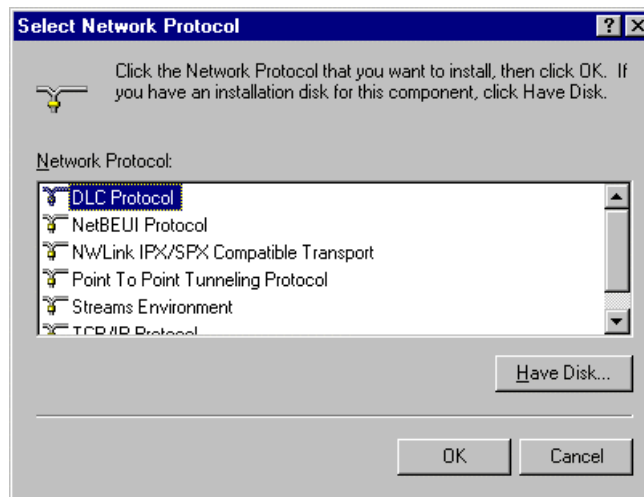

Figure 9-3. Select Network Protocol
3. The Select Network Protocol dialog box will display (Figure 9-3). Click on Have Disk... to continue.